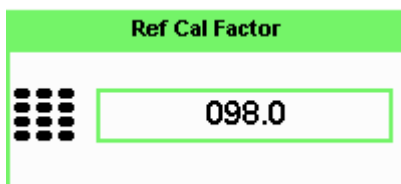

Figure 5-3 Reference Calibration Factor pop-up window
- 4 To change the settings, press the channel **REF CF**. The reference calibration factor pop up window is displayed as shown in Figure 5-3. Use the numeric keypad to enter the required value in the **Ref Cal Factor** pop-up menu.